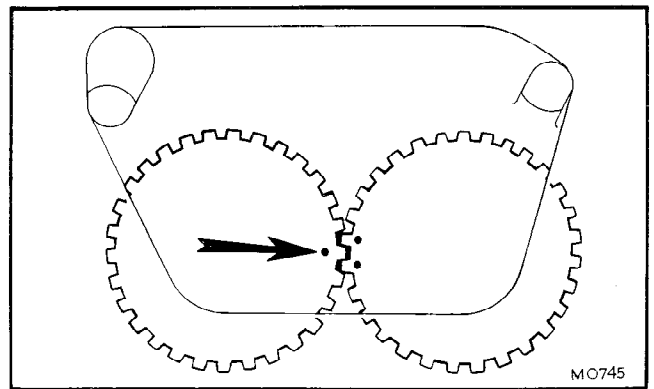

Fig. 2
- h. Refit the balancer gears with the thrust washers on both sides of the gears, and with the timing marks aligned as shown in Fig. 2. Apply Loctite to the gear securing screw threads.